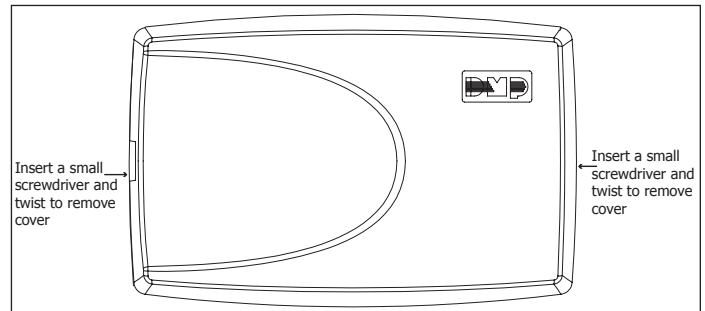

Figure 1: 1119 Wireless Sounder
1. Insert a small screwdriver into the slots on each side of the housing and twist to remove the cover. See Figure 1.